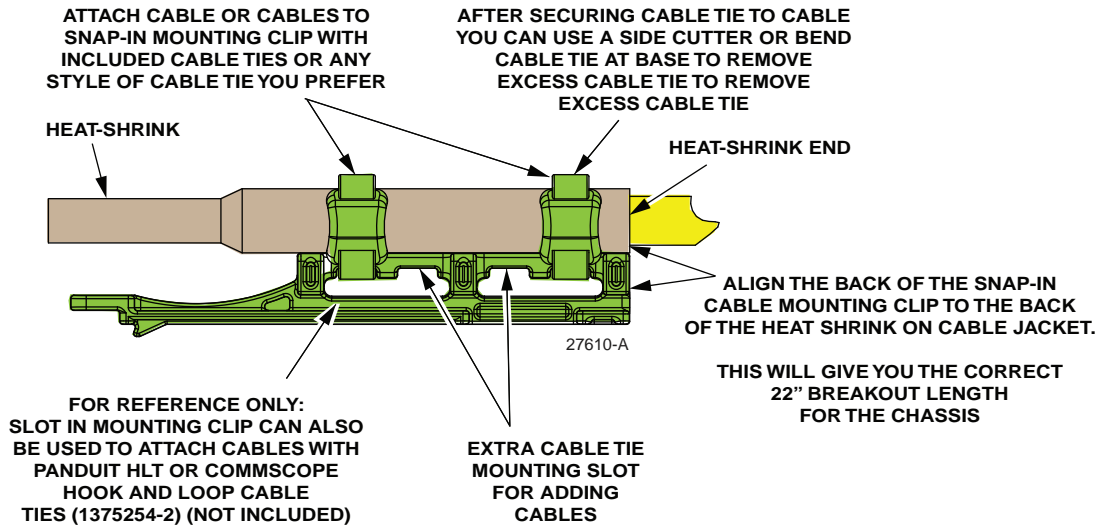

Figure 30. Cable Management Clip Detailed View
4. Secure the cable jacket to the clip with the tie wraps referring to Figure 30 as follows
Note: Ensure that the cable breakout is not retained by the tie wrap, referring to the guidelines provided in Figure 30 and in the installation drawing provided with the cable assembly.